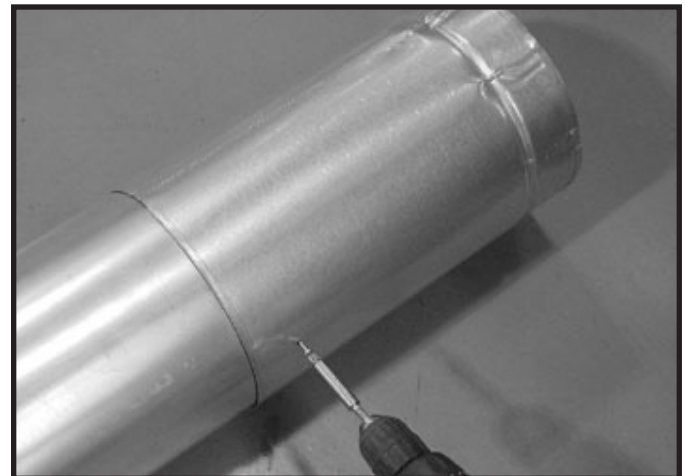

Figure 10.3 Screws into Slip Section
- Secure the pipe and slip section with two screws no longer than 1/2 in. (1,3 cm), using the pilot holes in the slip section. See Figure 10.3.